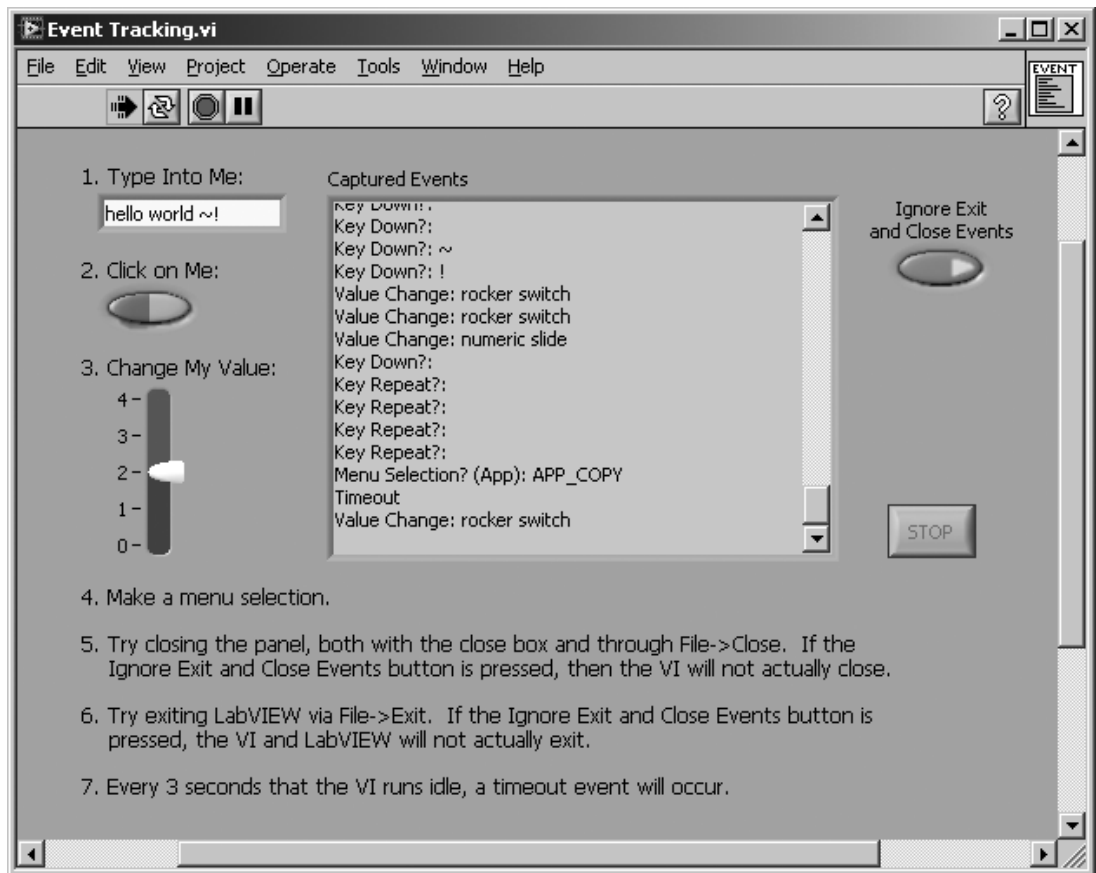

Figure 13.50
3. You'll see a textbox that gives you a real-time log of the events the VI is capturing (see Figure 13.50).